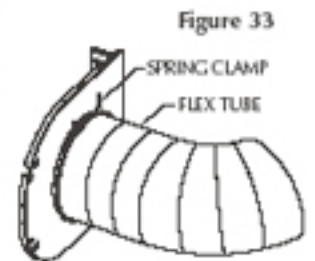

Figure 33
6. Slide one of the 6" spring clamps supplied over one end of the bypass tube. (Fig. 33)